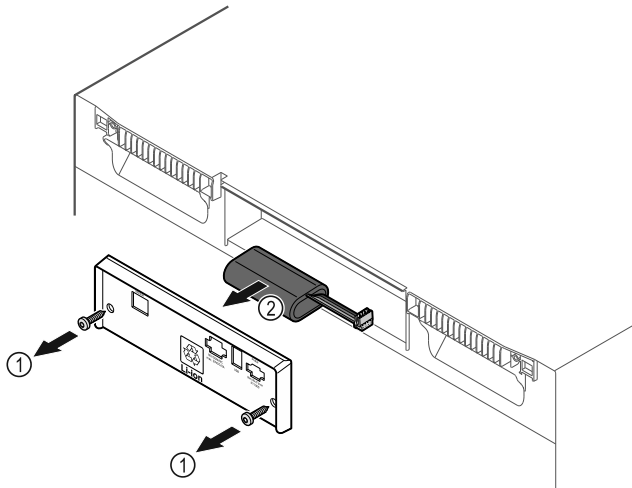

Fig. 180
- ▶ Unscrew screws and remove cover from the back of the appliance Fig. 180 (1).
- ▶ Disconnect and remove battery Fig. 180 (2).